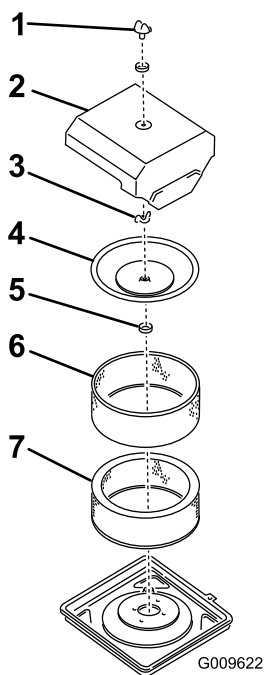

Figure 35
1. Remove knob, O-ring and cover (Figure 35).